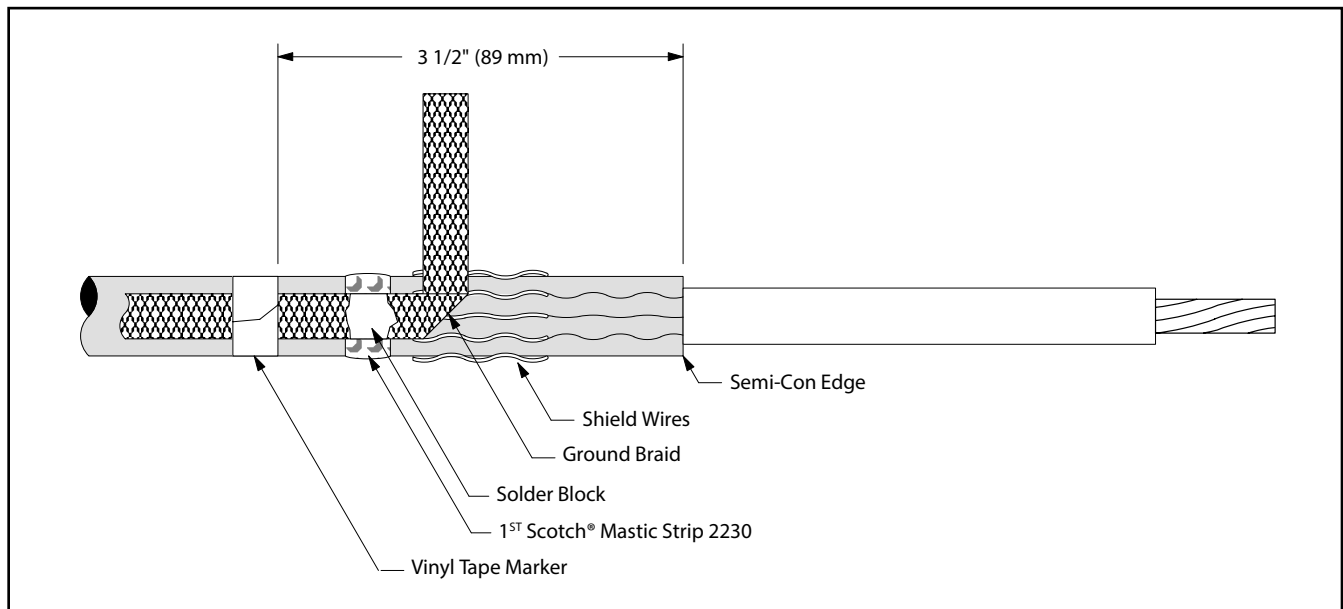

Figure 20
- 13.2 Position pre-formed ground braid with short tail directly over cut edge of folded back shield wires. Position long tail of ground braid, extending over cable semi-conductive jacket with solder block over mastic strip (*Figure 20*). Secure ground braid to cable semi-conductive jacket 3 1/2" (89 mm) from cable semi-con edge using vinyl tape (*Figure 20*).